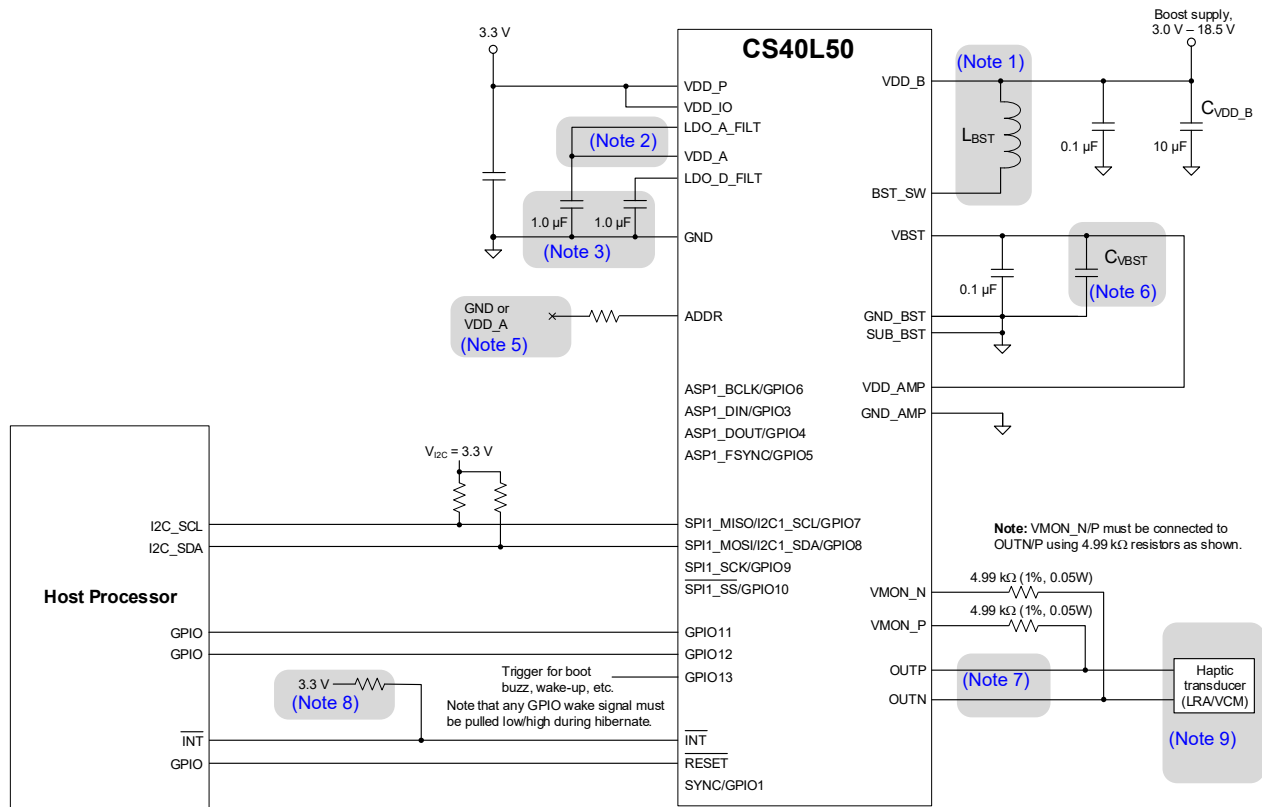
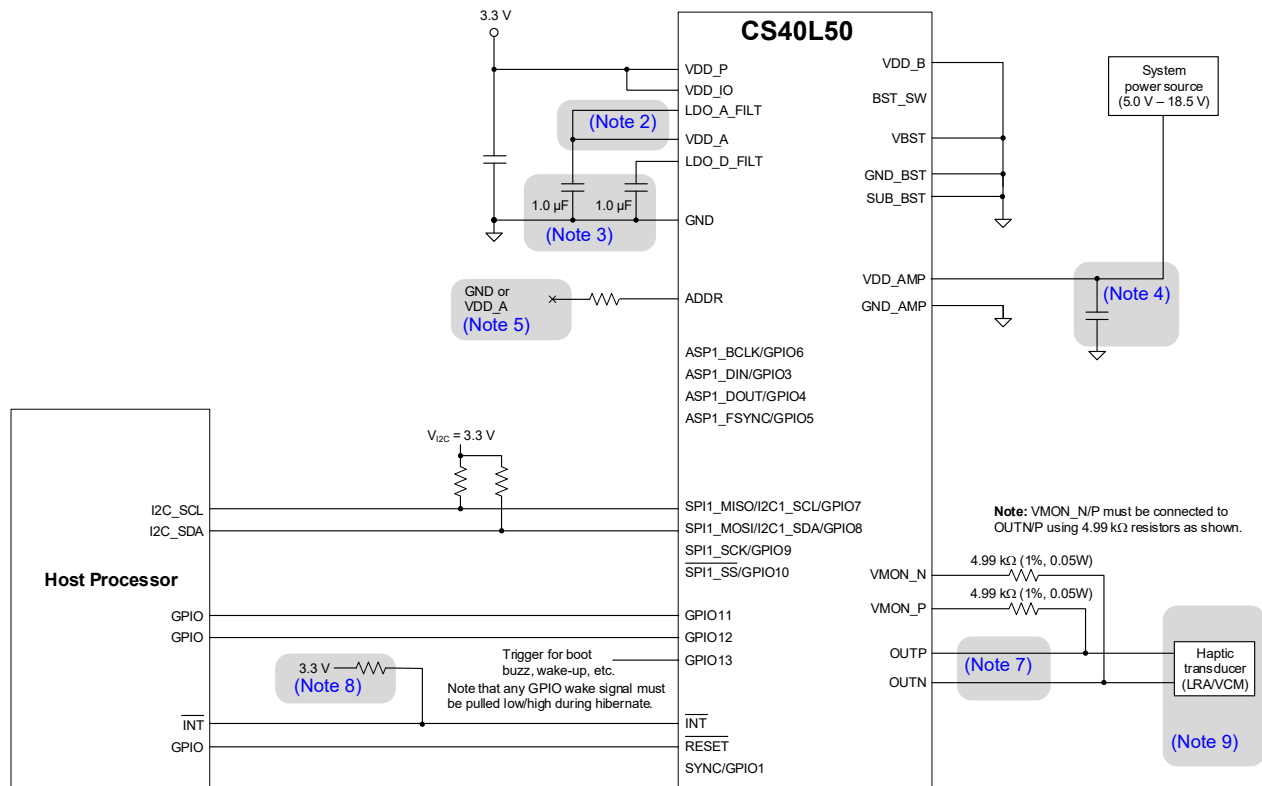

Figure 2-1. Typical configuration with internal boost power source
Figure 2-2. Typical configuration with external amplifier power source
- Fig. 2-1 through Fig. 2-2 are examples intended to describe the connectivity of each functional block within the CS40L50, and do not limit all possible use cases.